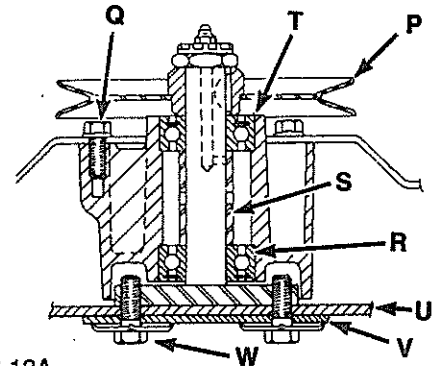

Figure 6-12A
3. Remove top pulley (P, Figure 6-12A) from each spindle.
5. Remove the 4 bolts (Q) securing spindle assembly to deck. Remove spindle assembly from mower deck.